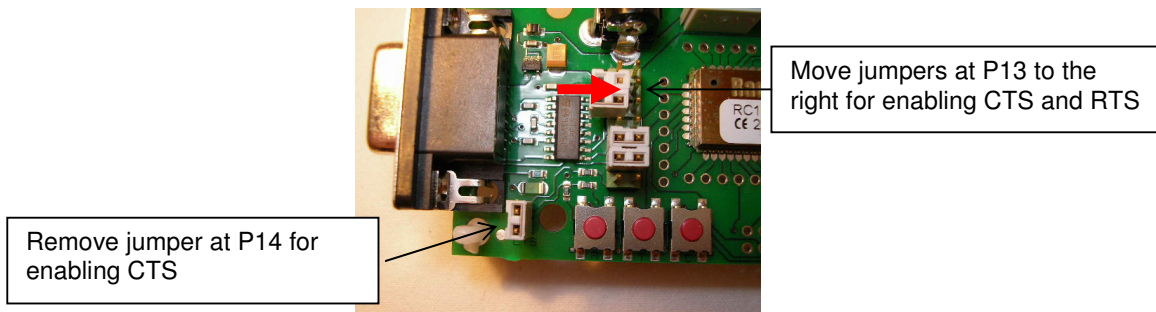
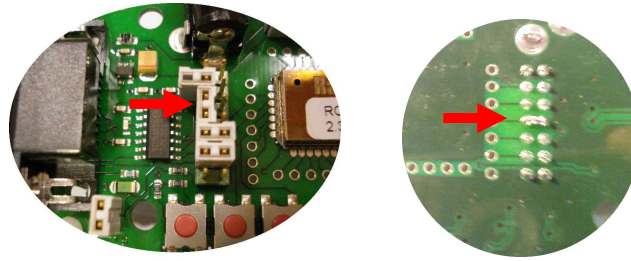

Figure 3: Enabling CTS and/or RTS handshake
Figure 4. Jumper placement and solder connection for connecting RTS to CONFIG
Modification procedure: On the bottom side of the PCB (layer 2), solder a connection between Pin 7 and Pin 8 on P13 as seen in Figure 4, right picture, if required (the pins might already be connected on newest PCB revisions). Then place the jumpers as shown in Figure 4, left picture. Config-mode is now enabled when RTS signal is asserted low. RTS can normally be controlled via various terminal-programs.
3.1	Added chapter "Control CONFIG-mode via the RS232 port". Added figure 4 and corrected text under figure 3.